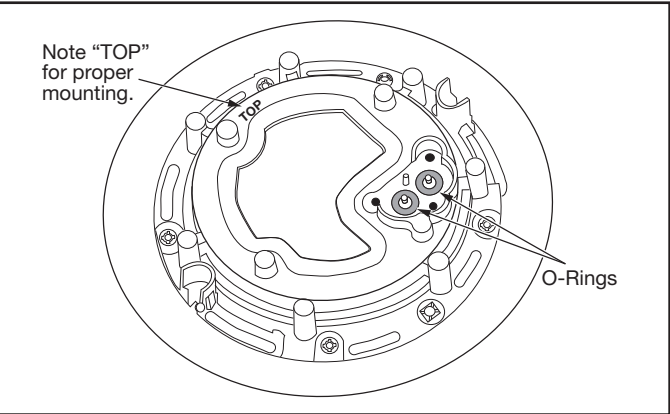

Figure 1. LumiPower for Concrete - Back of Light Engine
3. Remove the light engine from its packaging. Insert the two O-Rings (from kit P/N 20350) into the grooves on the back of the light and double-check that they are positioned correctly, as shown in Figures 1 and 2.
6. Locate the “TOP” marking on the rear of the light. See Figure 1.